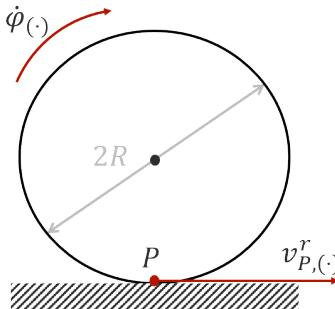

Figure 11.3. Pure rolling kinematic constraint
**Note:** a simpler way of deriving (9) is noticing, from (3), that  $\dot{y}_A^R = v_w(t) - c\dot{\theta}(t)$ .
- *Pure rolling:* the wheels never slips or skids (Figure 11.3). Recalling that  $R$  is the radius of the wheels (identical) and letting  $\dot{\phi}_l, \dot{\phi}_r$  be the angular velocities of the left and right wheels respectively, the velocity of the ground contact point P in the robot frame is given by: